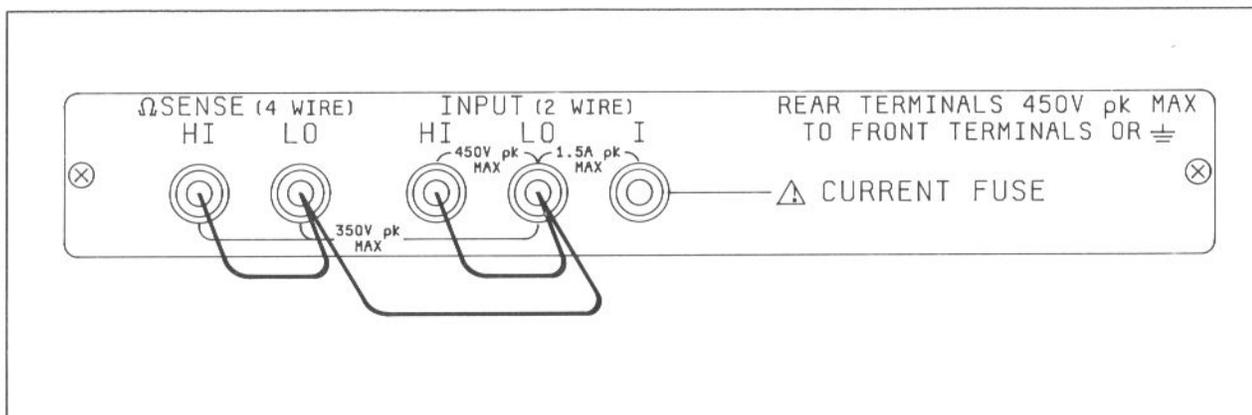

Figure 4-9. Standard Instrument Rear Input Performance Test Connections
1. Short the Rear Input HI and LO terminals and the Ω Sense HI and LO terminals as shown in Figure 4-9.